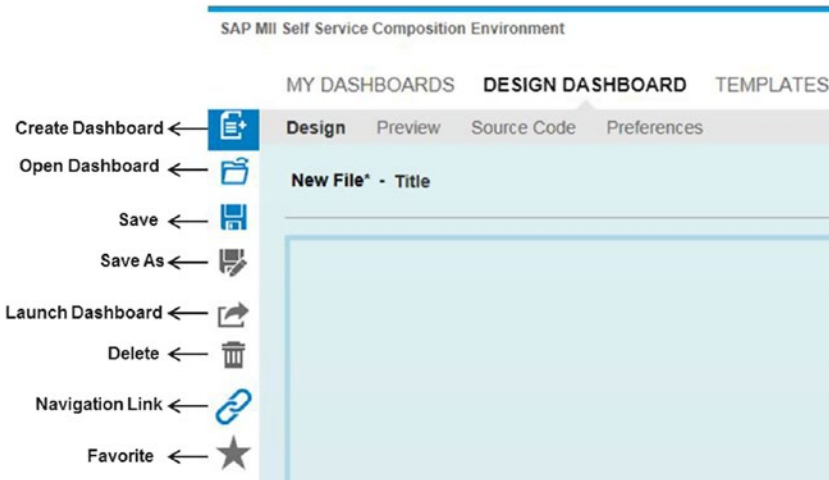

Figure 3-36. The Design Dashboard and the left-side toolbar
- *Design Dashboard Tab:* A screen where the logged-in user can design/create a dashboard, as shown in Figure 3-36.
- *Left Side Toolbar:* Contains icons to trigger all the actions that could be performed in the Self-Service Composition Environment. See Figure 3-36.